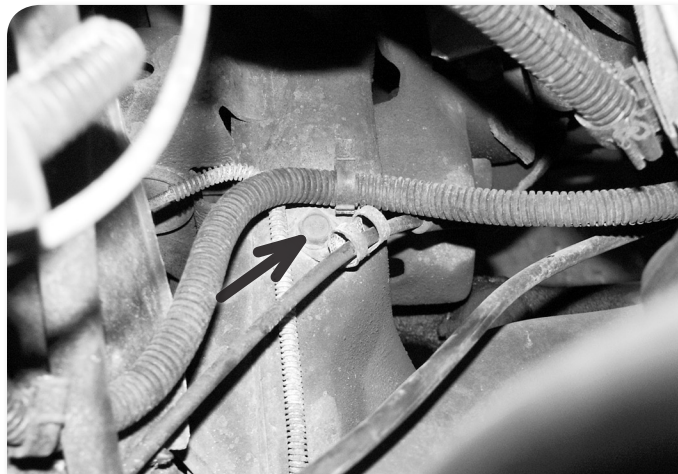

Figure 15
25. Remove the bolt mounting the axle actuator cable clamp to the passenger's side frame rail Figure 15.